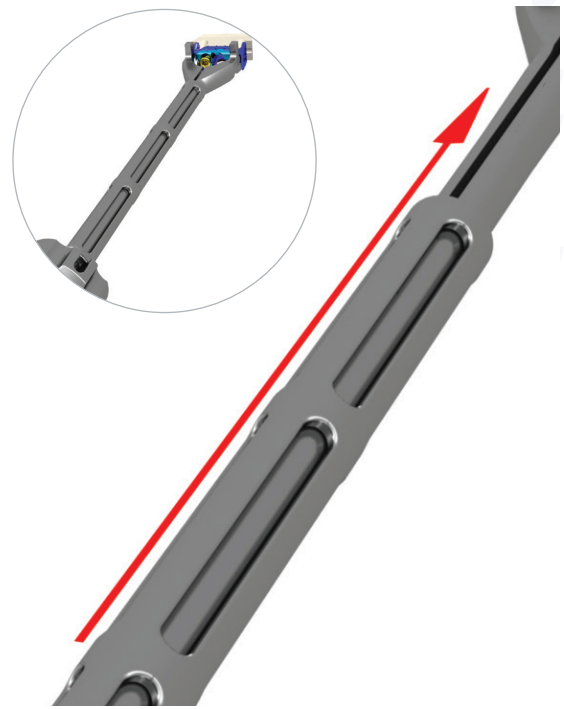

Figure 54
- Secure the plate by rotating the sleeve clockwise and sliding the inserter guide sleeve toward the plate until it bottoms out on the distal threads. Rotate the sleeve clockwise, engaging threads until secure (Figure 54).